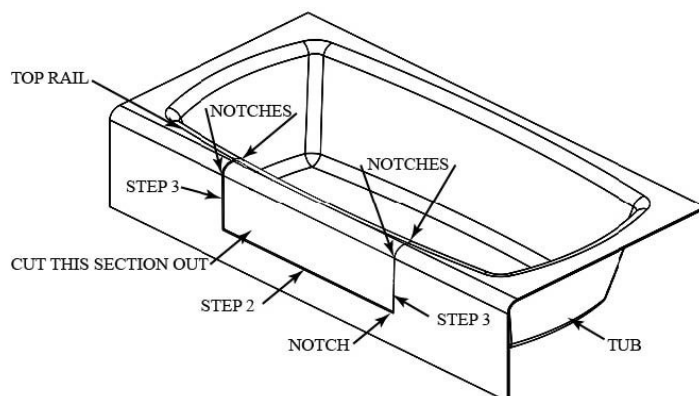

FIGURE 1
1. The first corner notches will be made with the side-grinder as illustrated in Figure 1 below.